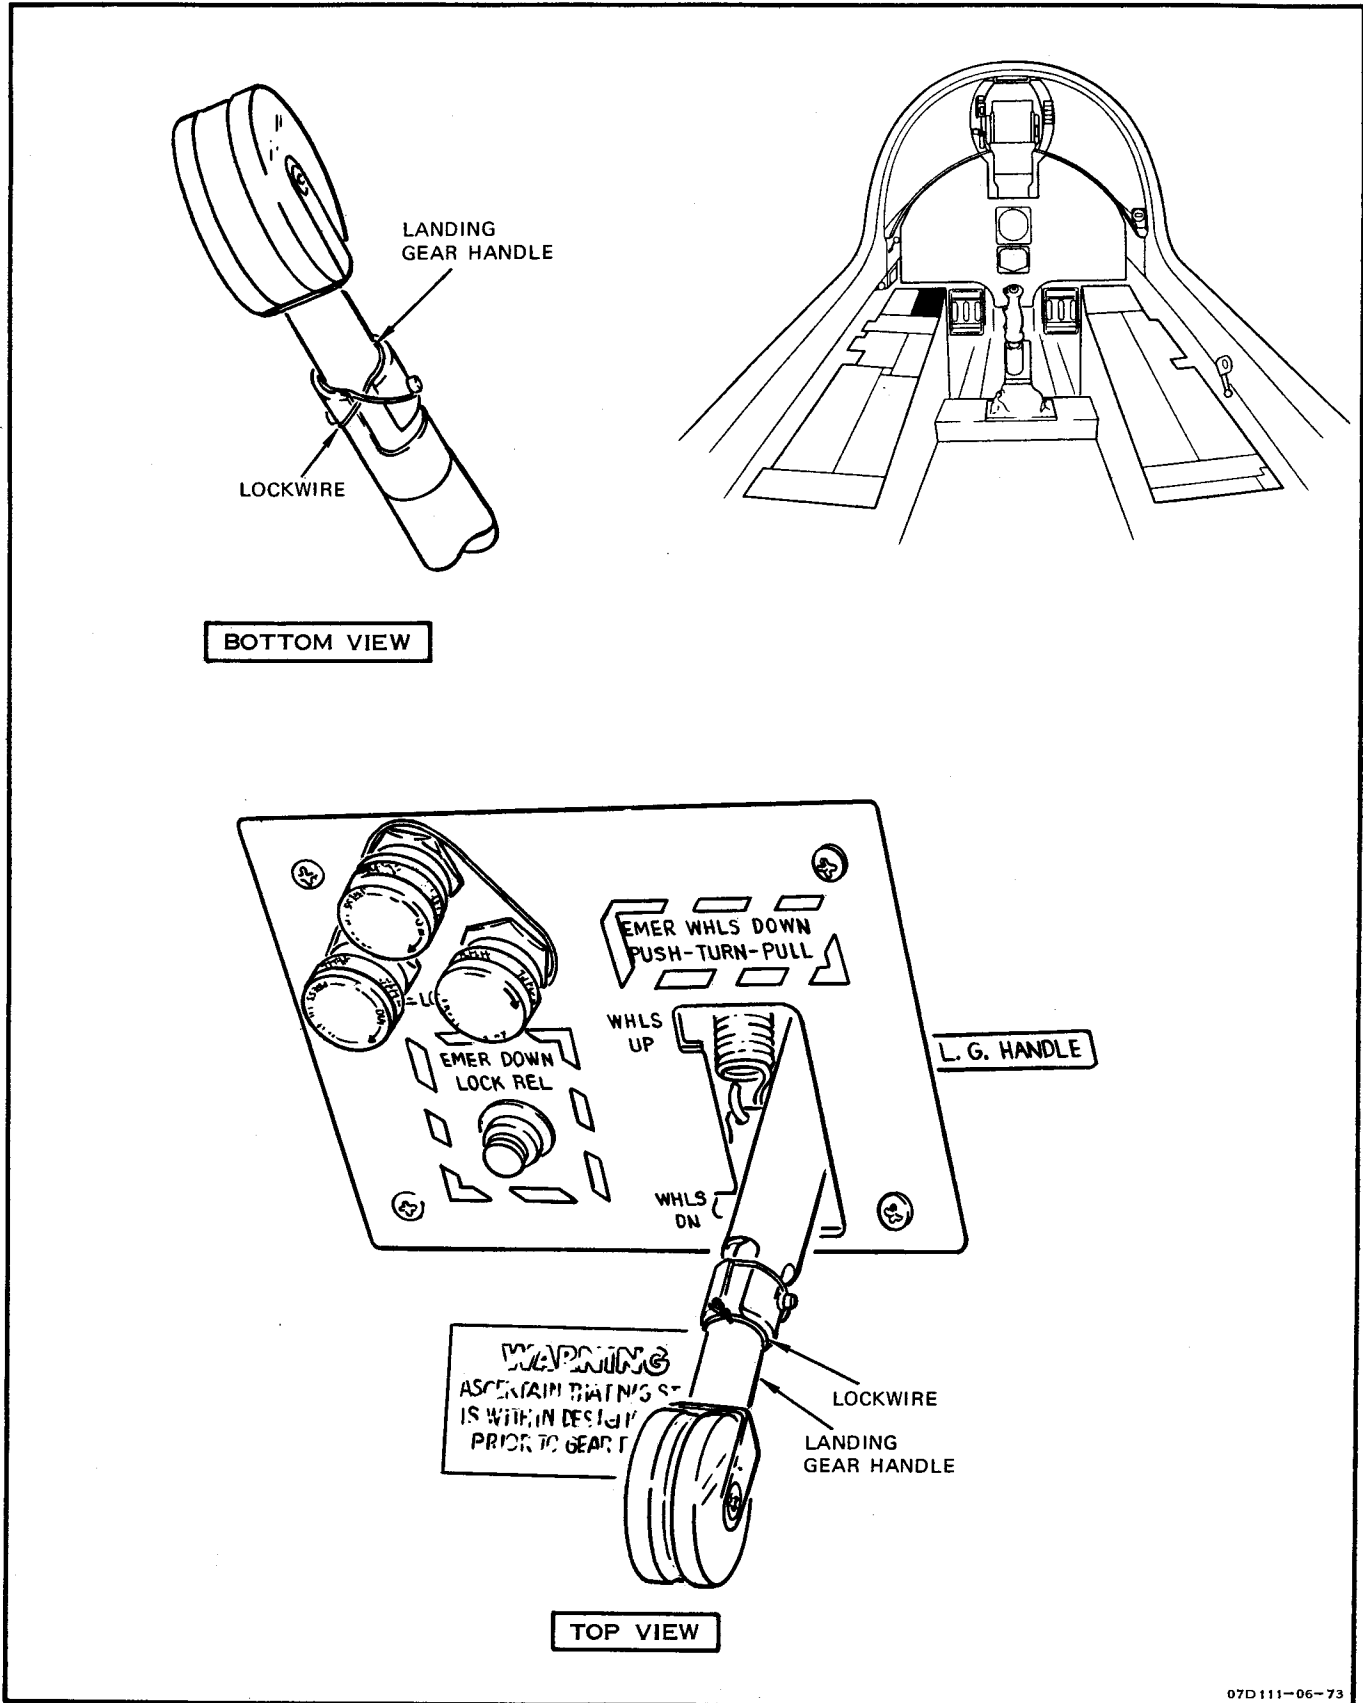

Figure 3-2. Lockwiring Landing Gear Handle
u. Using a single strand of MS20995CY20 lockwire, secure landing gear emergency handle as shown in figure 3-2.